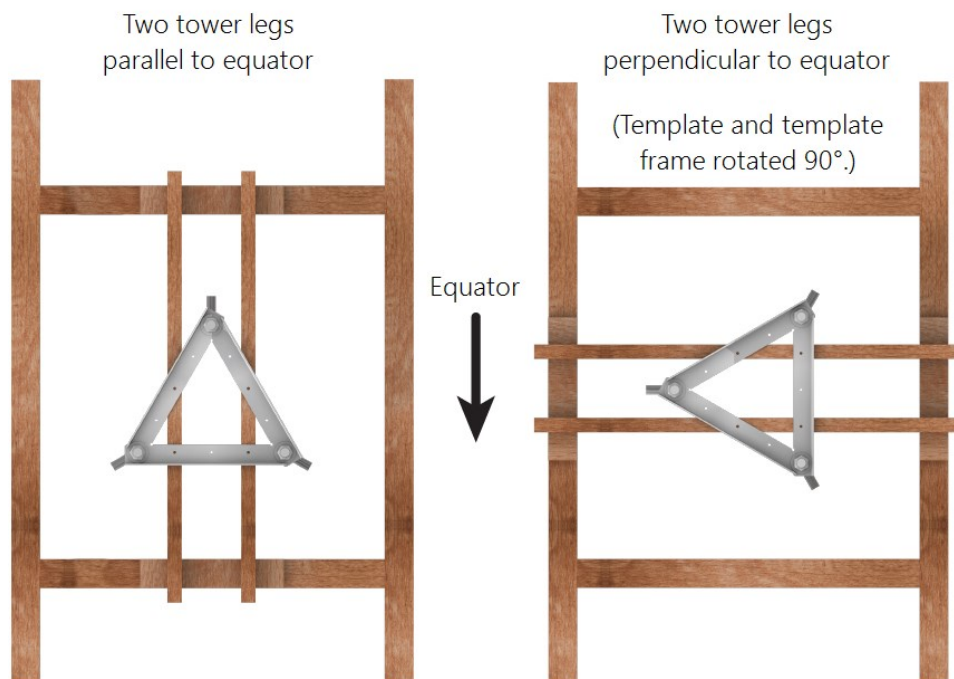

FIGURE 7-4. Template frame orientation
- Position the template frame as shown in FIGURE 7-4 (p. 12). The arrangement with two tower legs parallel to the equator is preferred for mounting a solar panel facing the equator. In instances where a crossarm needs to run perpendicular to the equator, such as precision pyranometer measurements, rotate the template and template frame 90° and mount the frame on the East and West sides of the concrete form. This lines up two tower legs perpendicular to the equator. The top of each bolt will be $7.6 \text{ cm} \pm 0.6 \text{ cm}$ ($3 \text{ in} \pm 0.25 \text{ in}$) above the level of the form. Level the tops of the J-bolts in all directions using a small level and secure the J-bolt template to the template frame with 25 mm (1 in) screws where holes in the template overlap the wooden frame.